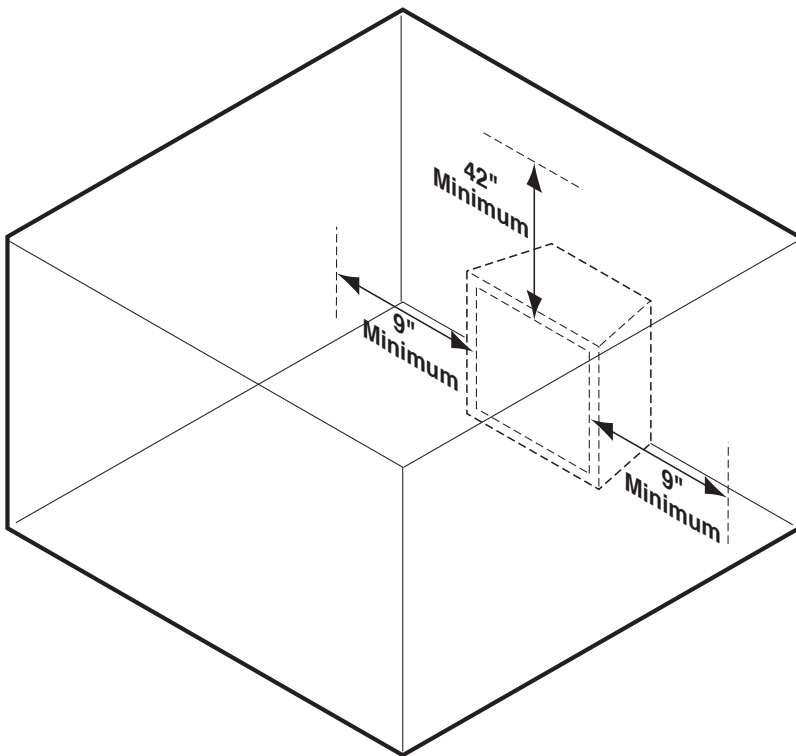

Figure 19 - Clearances and Height Requirements for DFX24C/DBX24C/DFX32
1. **Sidewall Clearances** — The clearance from the inside of the appliance to any combustible adjacent wall should not be less than 9" for the DBX24C/DFX24C and DFX32C. *See Figure 19.*
2. **Ceiling Clearance** — The ceiling must be at least 42" from the top of the firebox opening. *See Figures 19 and 20.*
WARNING The dimensions shown in *Figures 19 and 20* are minimum clearances to maintain in installing this heater. Left and right clearances are determined when facing the front of the heater.